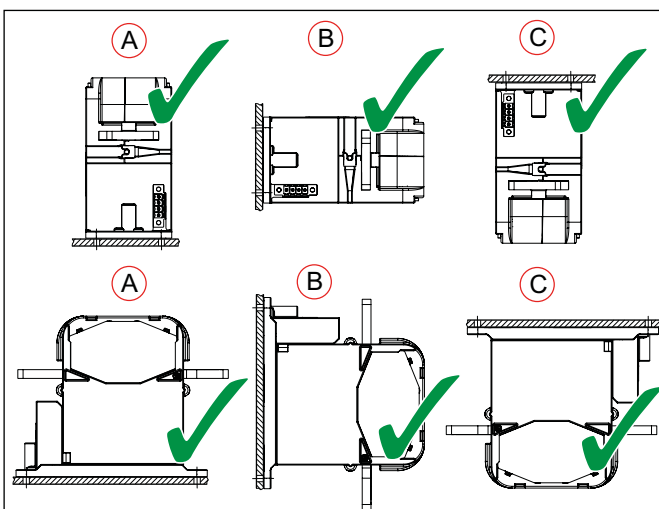
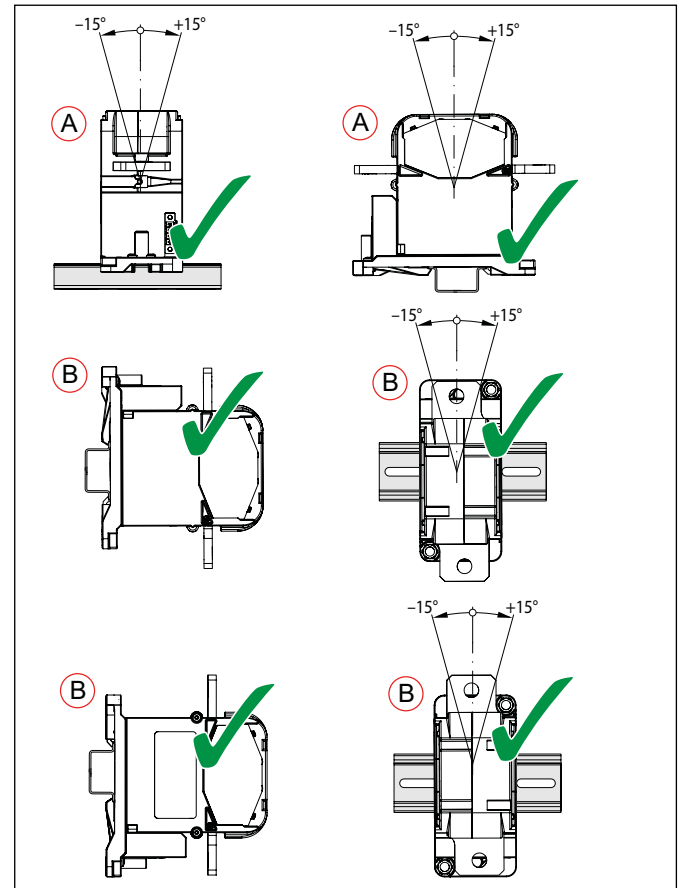

Fig. 2: C300-500 GXP: Examples of permissible mounting orientations (screw mounting)
Fig. 3: C300-500 RXP: Examples of permissible mounting orientations (top-hat rail mounting)
Contactors for screw mounting are designed for horizontal (A), vertical (B) or upside down (C) mounting, as shown for example in Fig. 2 and Fig. 3.
Contactors for top-hat rail mounting are designed for horizontal (A) or vertical (B) mounting, as shown for example in Fig. 3.